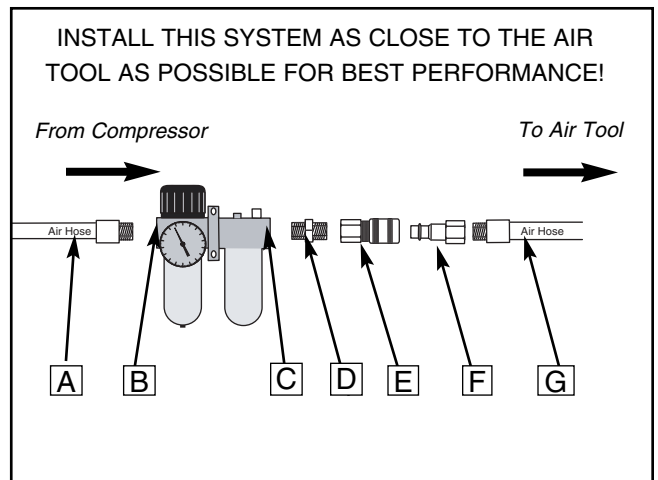

Figure 2. Connection diagram.
4. Connect a 1/4" NPT air line (A), in **Figure 2**, to the shut-off valve on your air compressor. Seal all the fittings with teflon tape to prevent leaks and product failure.
5. Connect the air line (A) to the line-IN 1/4" NPT threads (B) on the Model H3258 as shown in **Figure 2**. Note—Use as short of an air line as possible, with minimal bends, to maintain an accurate working pressure.
6. Thread on a male connector (D) to the Line "OUT" threads (C) followed by a quick coupler (E) as shown in **Figure 2**.